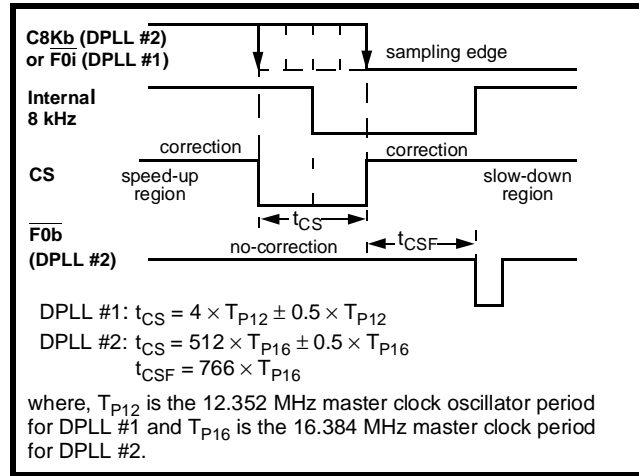

Figure 4 - Phase Comparison
As shown in Figure 4, the falling edge of the 8 kHz input signal (C8Kb for DPLL #2 or F0i for DPLL #1) is used to sample the internally generated 8 kHz clock and the correction signal (CS) once in every frame (125 μs). If the sampled CS is “1”, then the DPLL makes a speed-up or slow-down correction depending upon the sampled value of the internal 8 kHz signal. A sampled “0” or “1” causes the frequency correction circuit to respectively stretch or shrink the master clock by half a period at one instant in the frame. If the sampled CS is “0”, then the DPLL makes no correction on the master clock input. Note that since the internal 8 kHz signal and the CS signal are derived from the master clock, a correction will cause both clocks to stretch or shrink simultaneously by an amount equal to half the period of the master clock.
The no-correction window size is 324 ns for DPLL #1 and 32 μs for DPLL #2. It is possible for the relative phase of the reference signal to swing inside the no-correction window depending on its jitter and the relative drift of the master clock. As a result, the phase relationship between the input signal and the output clocks (and frame pulse in case of DPLL #2) may vary up to a maximum of window size. This situation is illustrated in Figure 4. The maximum phase variation for DPLL #1 is 324 ns and for DPLL #2 it is 32μs. However, this phase difference can be absorbed by the input jitter buffer of Mitel's T1/CEPT devices.